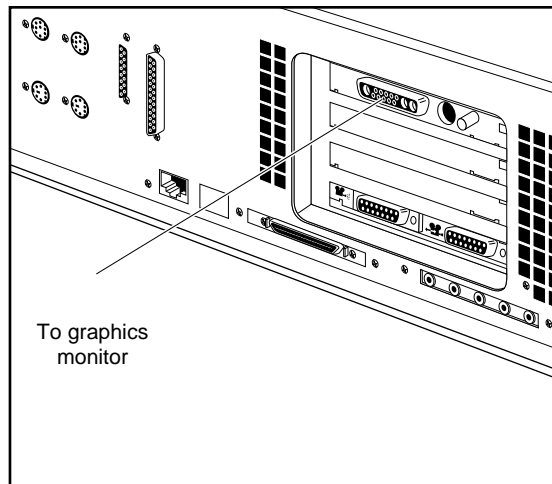

Figure 6-2 Cabling Cosmo to XZ graphics (no video)
1. Connect the graphics monitor cable to the graphics board as shown in Figure 6-2.